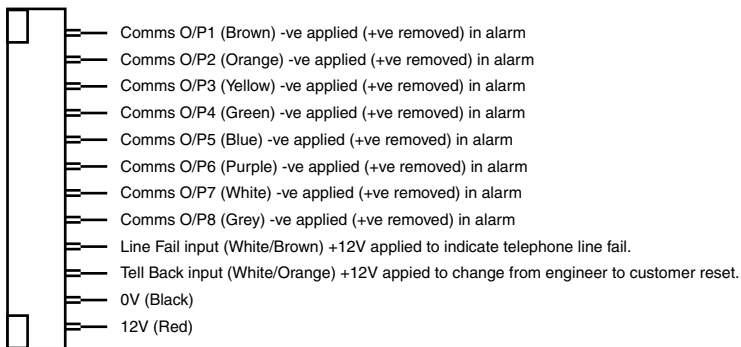

Figure 21. Communications Wiring Harness.
2. Make any necessary connections from the communicator to the Comms Wiring Harness. Figure 21 shows the outputs available on the free ends of the Comms Wiring Harness.